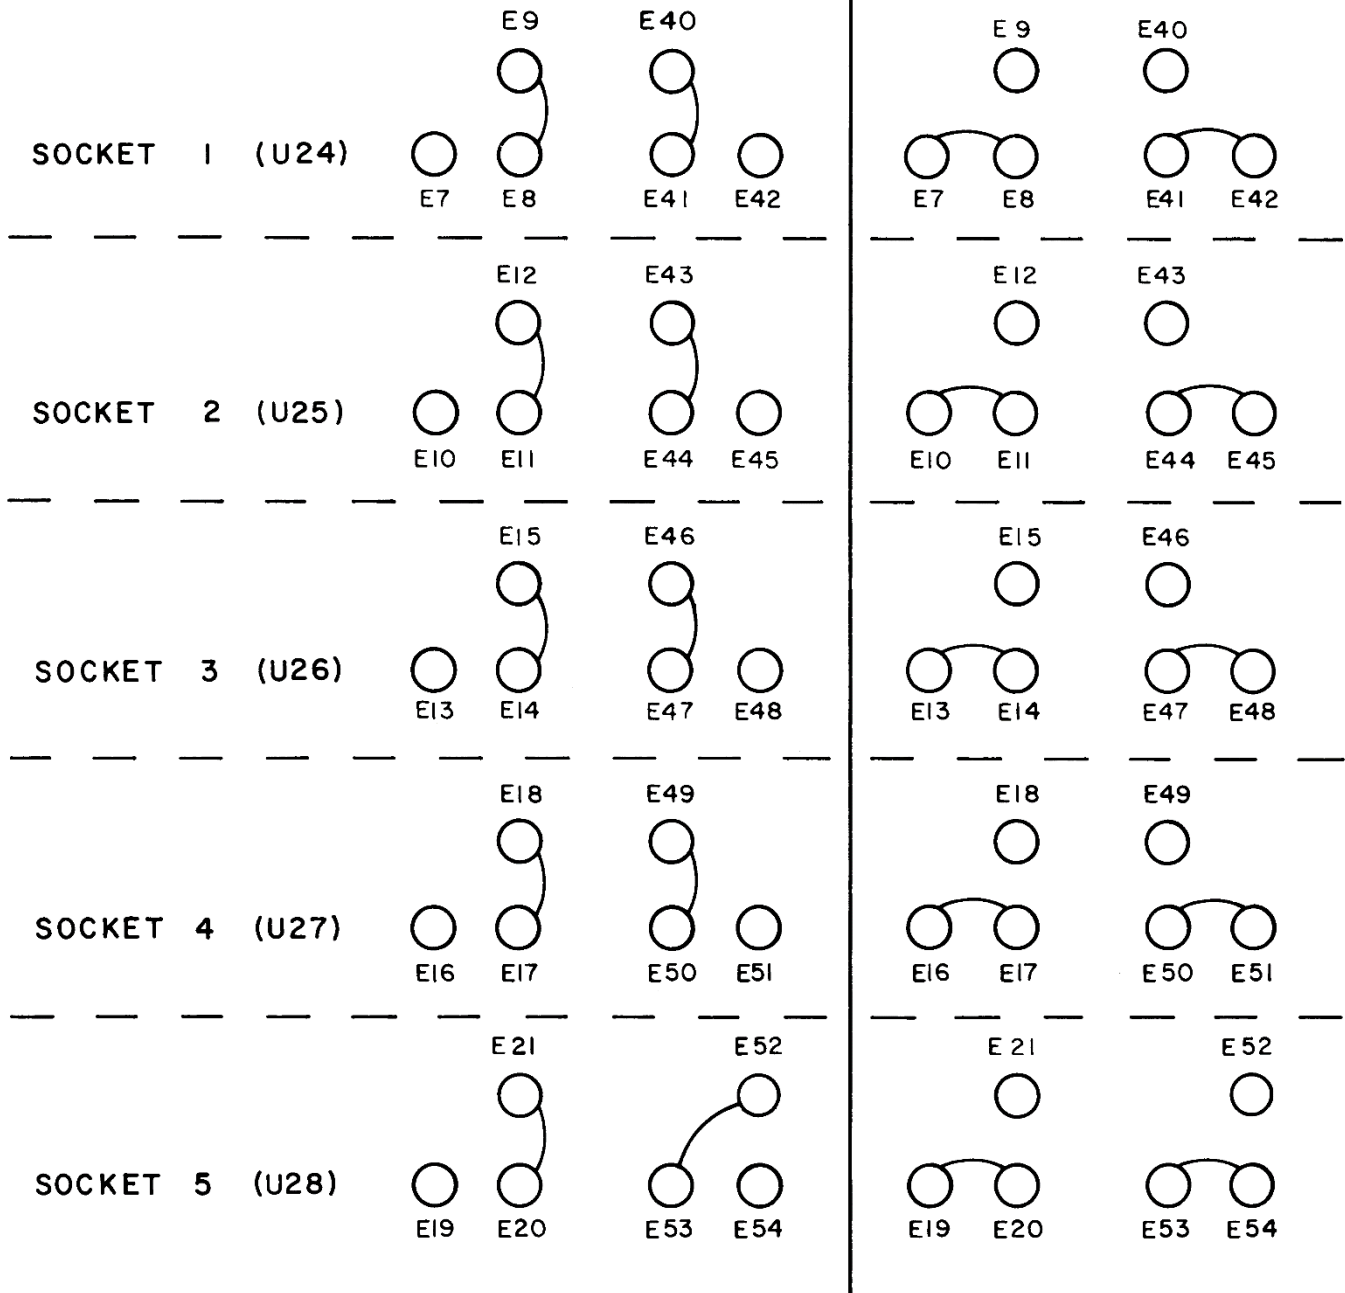

Figure 14
2) To make the 24 pin ROM/PROM Sockets universal to the various memory parts that can be used on this board, two address lines ($A_{10} - A_{11}$) and two supplies (GND and + 12V) must be jumpered. Figure 14 shows the various jumper connections required to configure each socket.
Figure 14 is divided into 2 columns; the left represents jumpers for all 1K parts, the right shows 2K and 4K options. Figure 15 details the MOS memory chip select options used. The option for each socket (1K or 2-4K) is shown independantly because a mix of memory parts may be required throughout the five sockets.